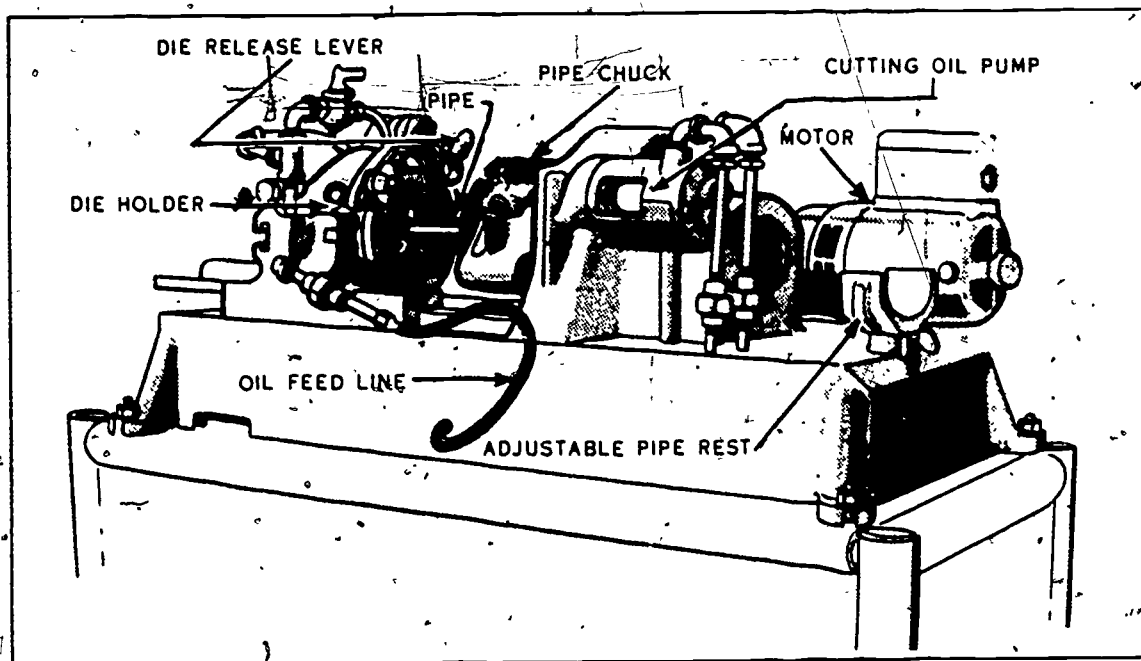

Figure 4-30. Power-driven bench pipe-threading machine.
**Power-Driven Bench Threader.** A bench type threading machine, like the one shown in figure 4-30, is usually found in every plumbing shop. The bench threader is designed to cut and ream the pipe as well as thread it.